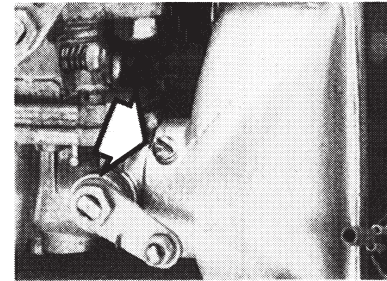

Fig. 13. Cleaning air cleaner, arrow shows lock screw1)
1. Release the lock screw with a screwdriver and remove the cleaner. See Fig. 13.